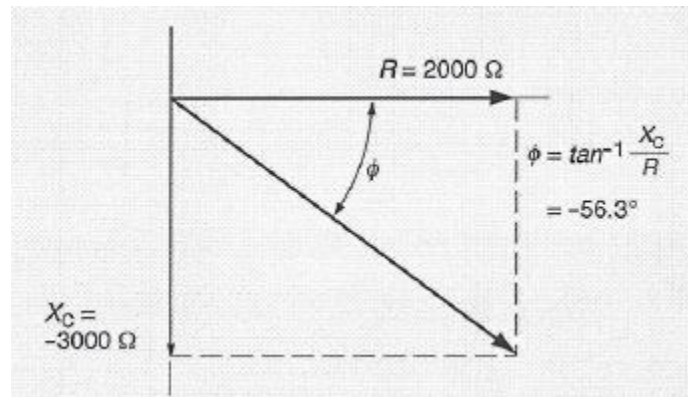

Figure 4.8: Vectors for Capacitance AC Circuits
- 4-72 To calculate the phase angle in a capacitive circuit, you start by sketching a vector diagram with the capacitive reactance directed downward and the resistance directed toward the right. Figure 4.8 is an example of such a vector diagram.
- 4-74 The vector diagram in Figure 4.8 indicates a phase angle of  $-56.3^\circ$ . It is calculated in the following way:
- 4-75 As another example, suppose the capacitive reactance shown in Figure 4.8 is only  $1000 \Omega$ . What is the phase angle between the potential difference and the current in this circuit?